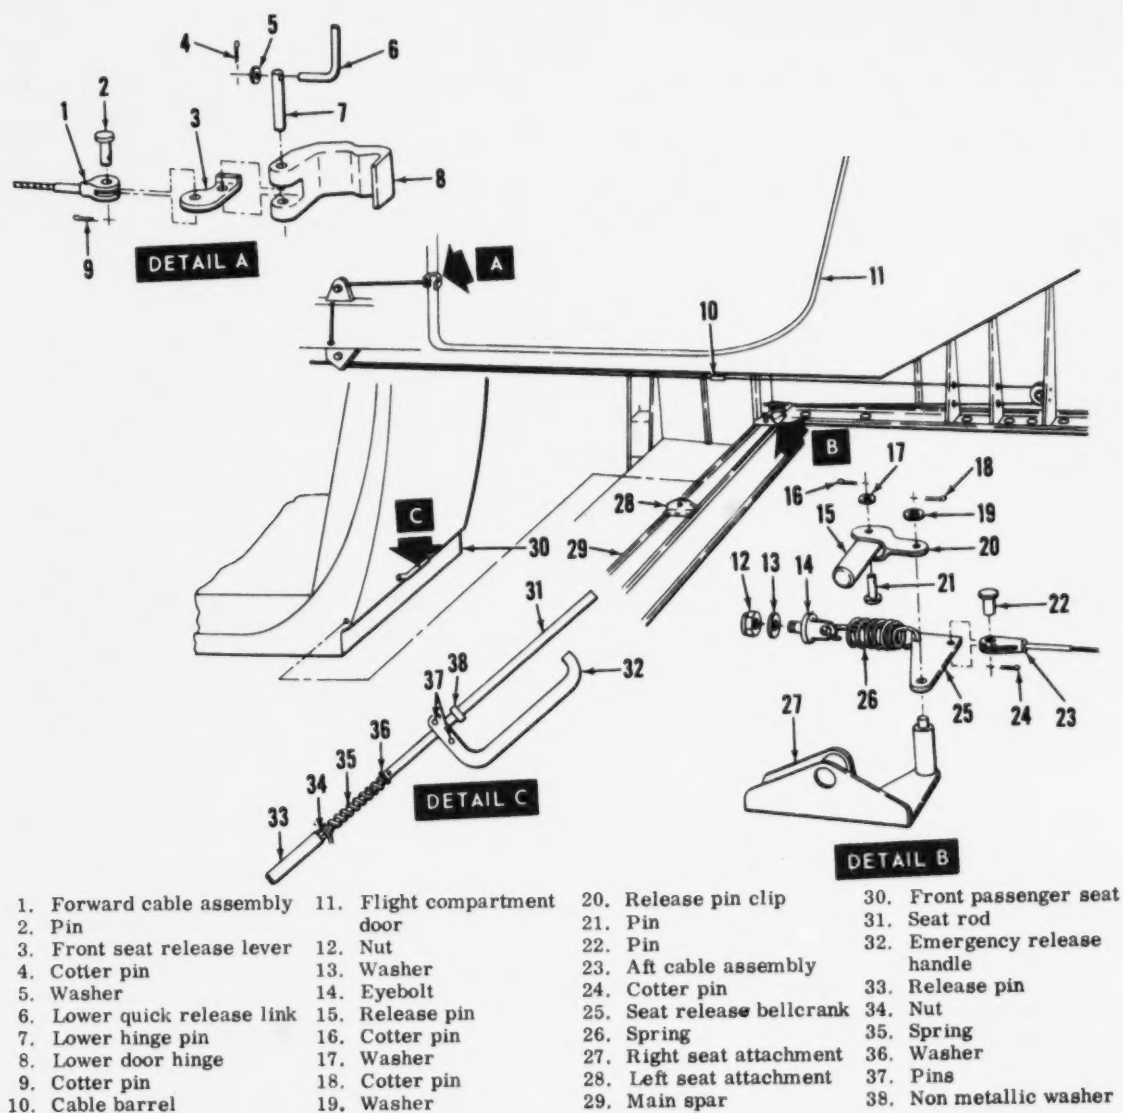

Figure 4-12. Front passenger seat locking mechanism (U-8D and RU-8D)
4-62. FRONT PASSENGER SEAT LOCKING MECHANISM. A locking mechanism (figure 4-12) latches the back of the front passenger seat to the main spar by pins linked to the cab-
(2) Cut lock wire and unscrew cable barrel (10, figure 4-12) to disconnect forward and aft cable assemblies (1 and 23).
(3) Remove cotter pin (4) and washer (5) from lower quick release link (6) and remove quick release link from lower hinge pin (7) and pull hinge pin up to release front seat release lever (3) from lower door hinge (8).